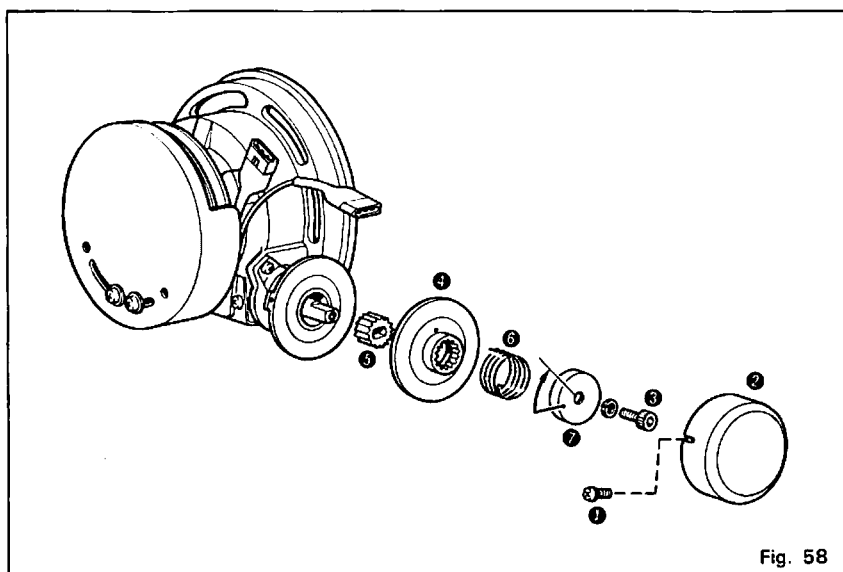

Fig. 58
- a. Remove screw ① and cover ②.
- b. Remove bolt ③ and replace brake disc ④ together with selation ⑤.
- c. To fix it, put the end of spring ⑥ into the hole ④ of brake disc and another end of spring into the hole of spring fixture ⑦ and turn 45° as per Fig. 58, and fasten bolt ③.